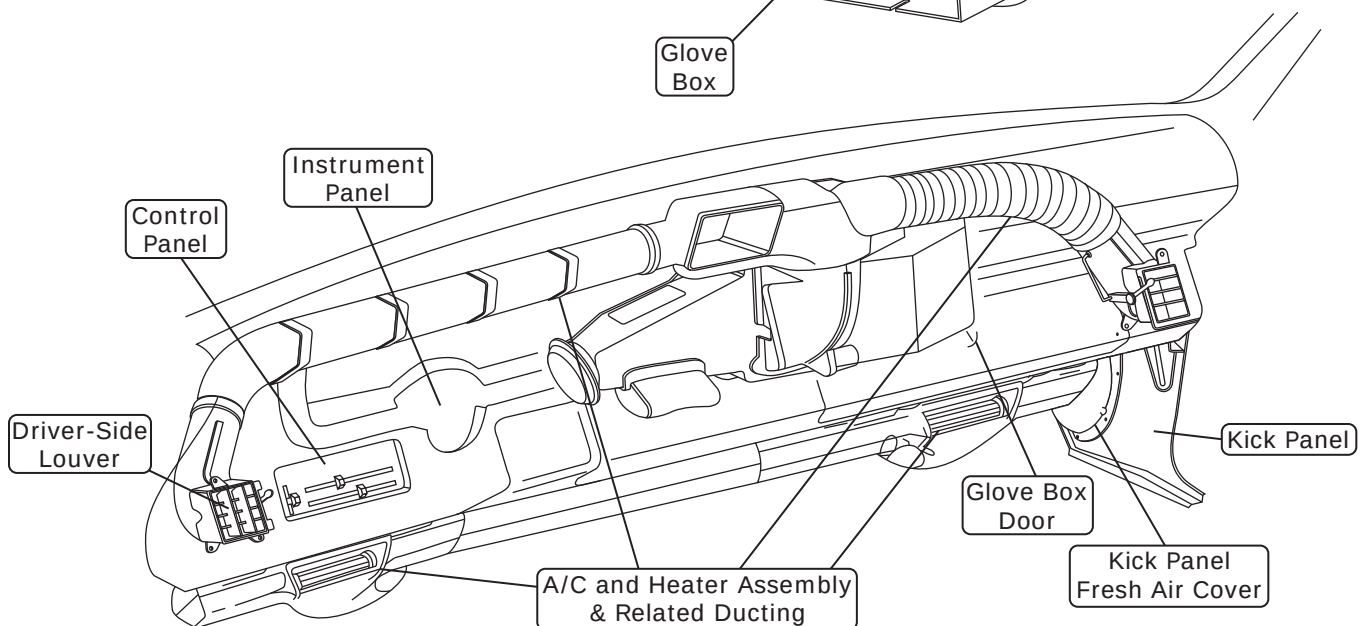

Figure 2
3. Remove the A/C, heater/evaporator assembly and all related ducting (discard, but retain screws) (See Figure 2, below).
4. Remove the A/C and heat outlets (retain). The instrument panel must be removed to get to the left outlet and control panel (See Figure 2, below).
5. Remove the control panel assembly (discard) (See Figure 2, below).
6. Remove the passenger-side kick panel fresh air cover (discard) and kick panel (retain). Remove the cable from the panel (discard) (See Figure 2, below).
7. Reinstall the vehicle's OEM kick panel trim, then make the necessary trim at the kick panel fresh air cover (See Figure 2, below). **NOTE: Retain the kick panel fresh air cover until after the evaporator module is installed.**